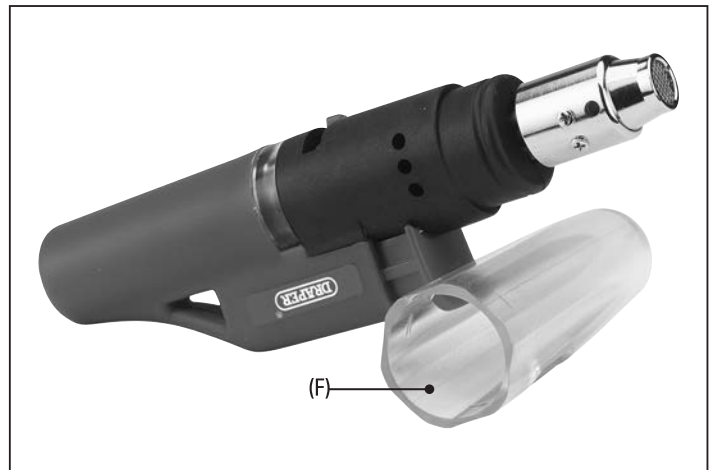

Fig. 4
The clear lid (F) can be used as a stand while cooling (Fig. 4).